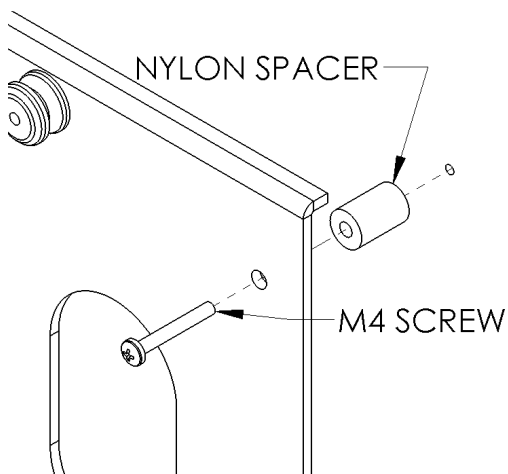
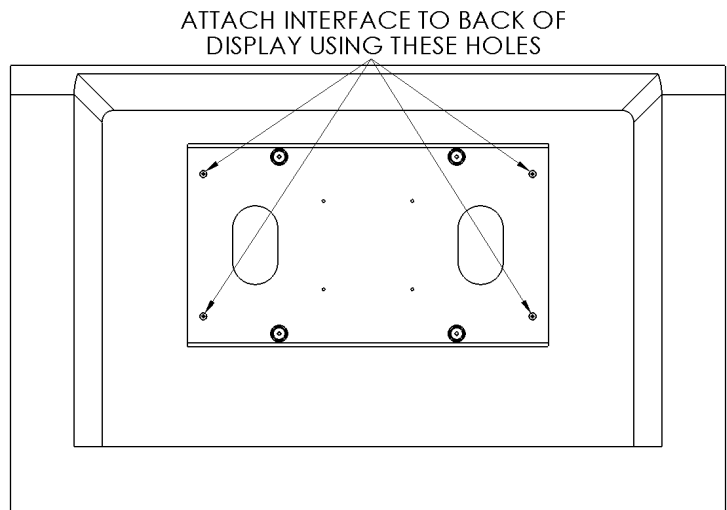

Figure 4
Figure 5
2. Place Nylon spacers over mounting holes on back of screen. Attach mounting brackets to display using the M4 screws (see Figure 4 & Figure 5)